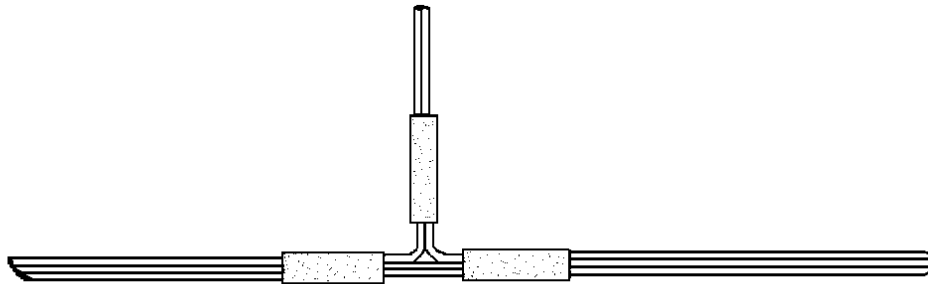

FIGURE 6 - BUNDLING WIRE CABLE (TYPICAL)
- 5.2.3.5 Shrink the tubing in place using a suitable hot air gun (see Figure 6).